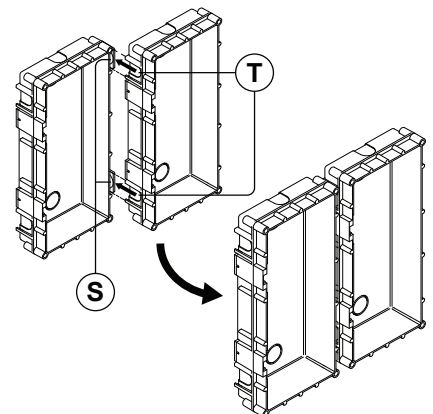

Fig. 69
2. Next take the 2nd flush box module and align the side slots (T) (on the 2nd flush box) with the side clips (S) from the 1st flush box. Following the guide arrows push down on the 2nd flush box so that it clips into position, as shown in **Fig.69**.